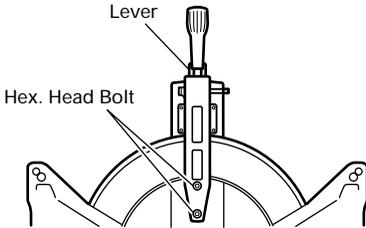
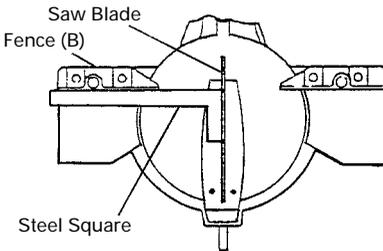

Fig. 29
Fig. 30
2. Inspecting the lever (Fig. 29 and Fig. 30)